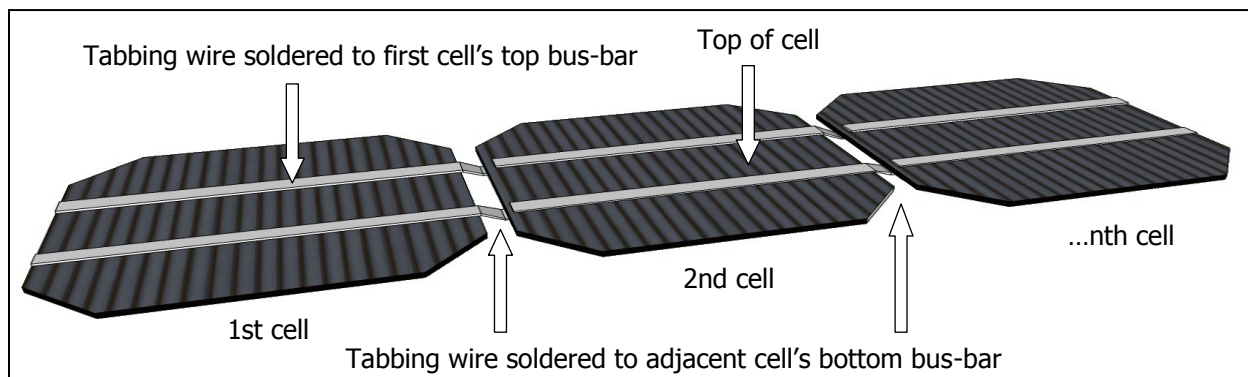

Figure 12
This panel is designed with (12) solar cells connected in series, yielding about 6.3 VDC (12 cells at 0.525 volts each). Figure 12 shows the connection scheme that we ultimately want to accomplish. To wire solar cells in series, we need to connect the top of the first cell to the bottom of the second cell, and the top of the second to the bottom of the third, and so on...until all (12) cells are connected in series.